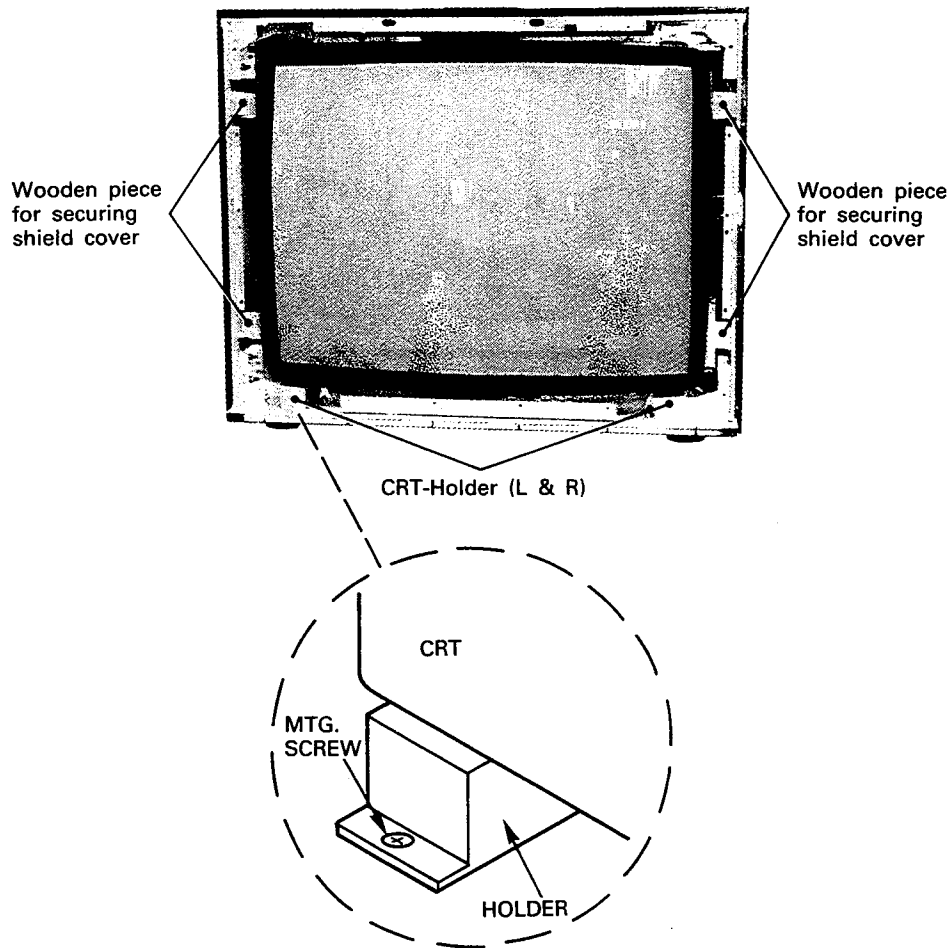

Figure 6
9. Remove the single mounting screw from each CRT-HOLDER (L & R), but leave the Holders L & R in place. (Figure 6)
7. Turn the TV upright, slide the CRT-HOLDERS (L & R) under the front of the CRT and secure both CRT-HOLDERS with a Philips mounting screw. (Figure 6)